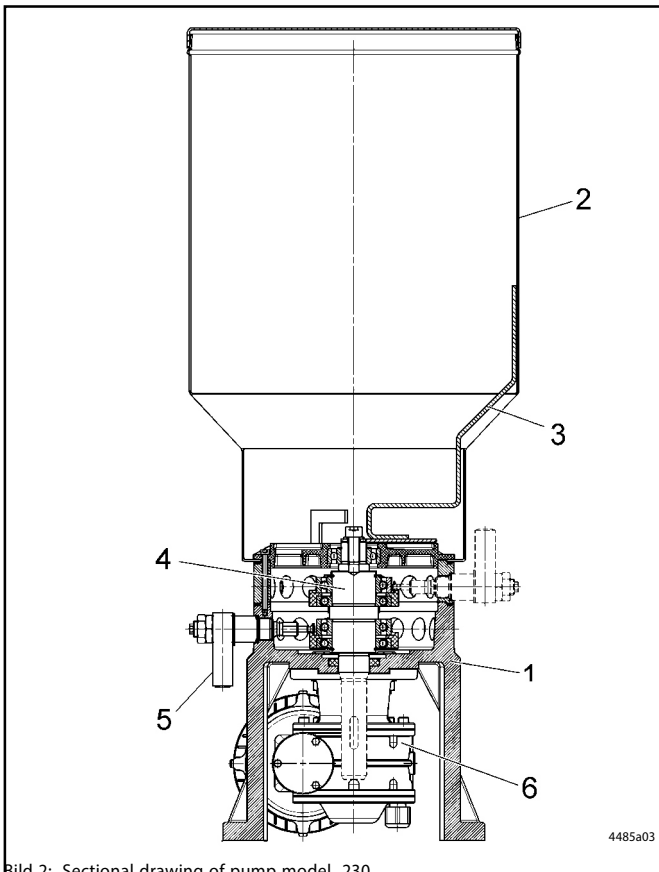

Bild 2: Sectional drawing of pump model 230
- The pump essentially consists of the components shown in Fig. 2.
- The worm gear (6, Fig. 2) reduces the speed of the drive motor down to the speed of the eccentric shaft.
- The eccentric shaft (4) causes the piston lodged in the pump element (5) to move to and fro, with the result that the lubricant is sucked and dispensed to the outlet via a check valve.
- The eccentric shaft simultaneously drives the stirring paddle (3). The rotating movement of the stirring paddle makes sure that the lubricant is homogenized and directed into the suction boreholes of the pump element.